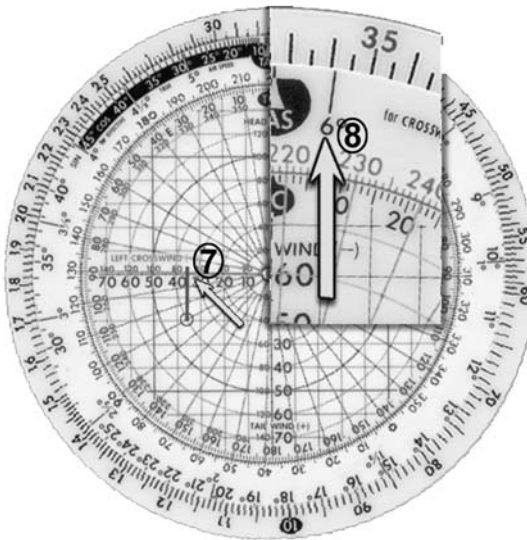

Figure 4.5-17 Preflight Wind Calculation 6
8. The actual crosswind value of 35 and should produce a Crab Angle slightly greater than 6° . It does (6.2°) (Figure 4.5-17), but always round to the nearest whole degree. Apply this CA to the TC (+ or -) to determine the TH.